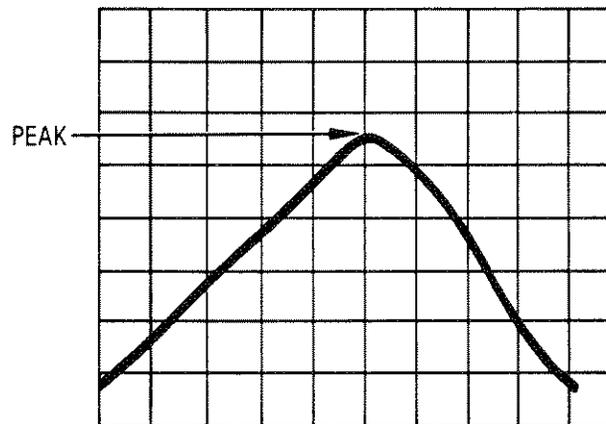

Figure 5-21. Optimum YTM Response
- c. YTM tuning is adjusted by centering the YTM response peak on the oscilloscope display (see Figure 5-21). Adjustments are made at the highest and lowest frequency in each band. In addition, band 3 is adjusted at "breakpoint" to correct for tracking deviation at the higher frequencies.